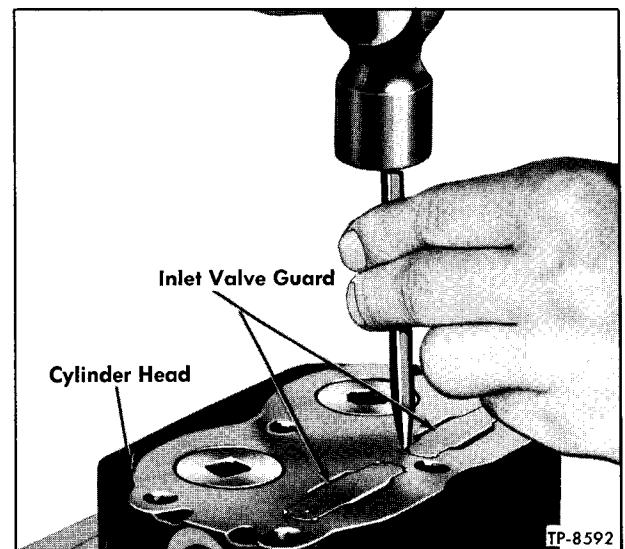

Figure 8—Staking Inlet Valve Guard in Cylinder Head
2. Place one inlet valve in recess in bottom of cylinder head, with hole in valve aligned with valve guard pin hole in head. Place inlet valve guard on top of inlet valve, with dowel pin inserted through hole in inlet valve into cylinder head. Tap guard firmly into place; then stake in place at four points (fig. 8). Install the other inlet valve and valve guard in the same manner. After both valves are installed, turn cylinder head over and check operation of valves. Using one of the inlet valve plungers without spring, insert plunger down through cylinder head onto inlet valve. Press inlet valve down against valve guard; then make sure inlet valve springs back up when released.